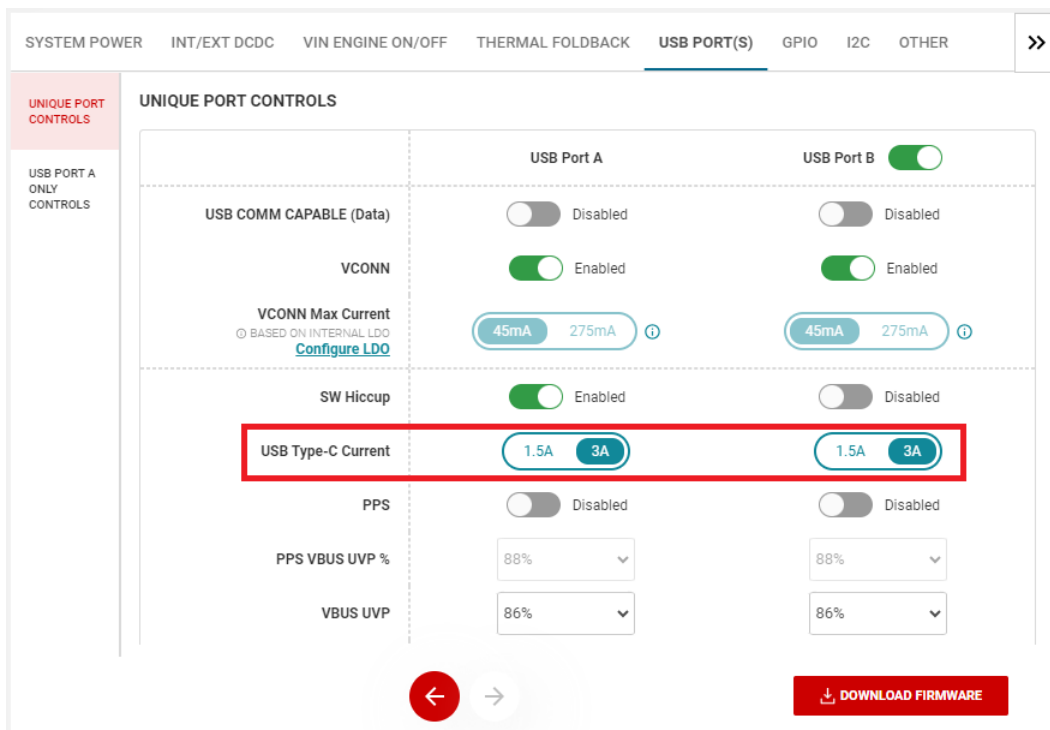

Figure 3-7. USB Type-C Current – Advanced Configuration
In the event where one PD Sink and one non-PD Sink are connected to the ports, the Equally Divided System Power is initially allocated to each Sink. This connection takes roughly 8.5 seconds for the TPS257xx-Q1 firmware to identify a non-PD Sink. Once a non-PD Sink is identified, the SPM Engine can reallocate and redistribute system power; Non-PD USB-C Power is distributed to the non-PD Sink and the remaining power (the difference between the System Max Power and the Non-PD USB-C Power) is allocated to the PD Sink. The Non-PD USB-C Power can be selected by configuring the USB Type-C Current parameter from the GUI's USB PORT(S) window (see Figure 3-7).